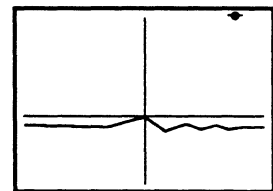

Figure 7 - The expanded display in Figure 5 reappears when the center of the Vertical Expansion button is pressed and held.
6. Press and hold the center of the Vertical Expansion button. This will cause the previous vertical expansion default setting to reappear (Figure 7).